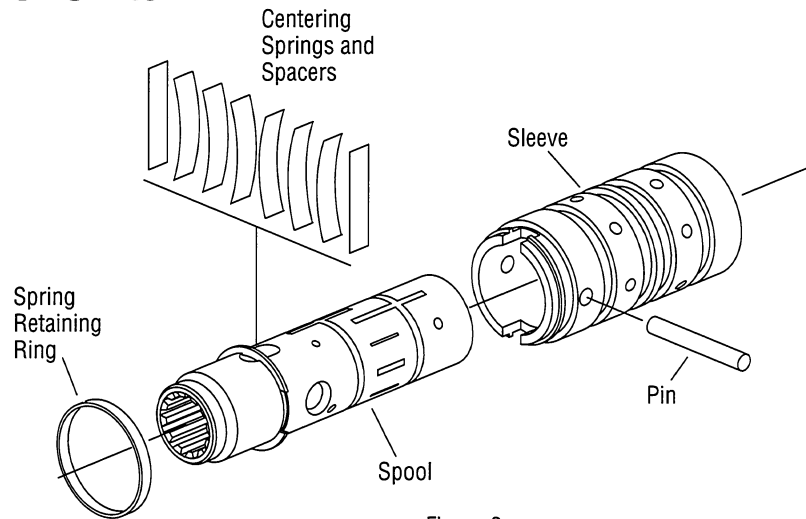

Figure 3
**7** Remove the pin that holds the spool and sleeve together, see figure 3.
- 15 Install the pin, see figure 3.